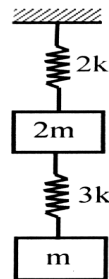

Fig.5, Q. No. 7, P08AU65
7. Determine the fundamental frequency of the system shown in Fig. 5. Q.7 by using (i) Stodola method, (ii) Matrix iteration method. 20